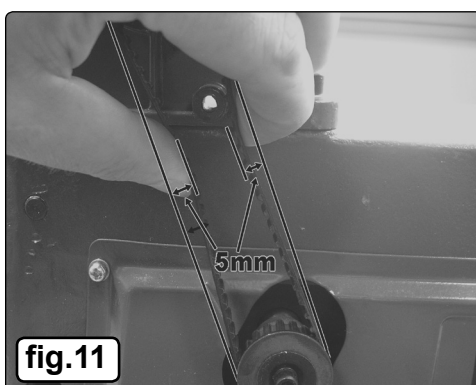

fig.11
- 6.7.7. The correct belt tension is shown in fig.11, with a firm pressure you should be able to squeeze the belt 5mm on each side. **DO NOT** over tighten as this will damage the motor bearings and belt. The belt should not be slack as it may run off the pulleys during use.